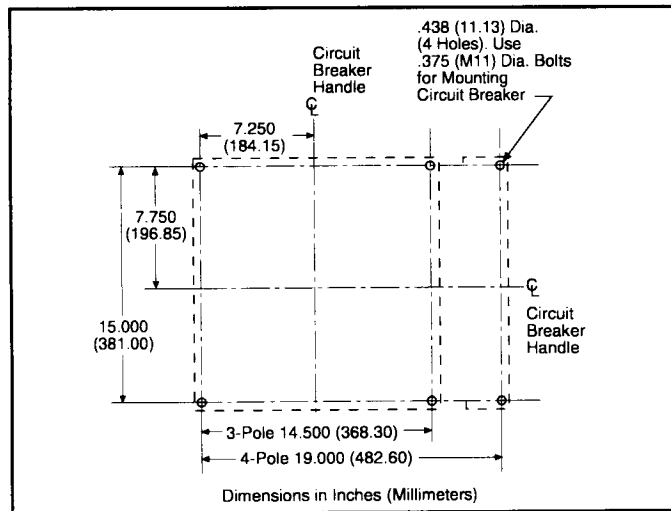
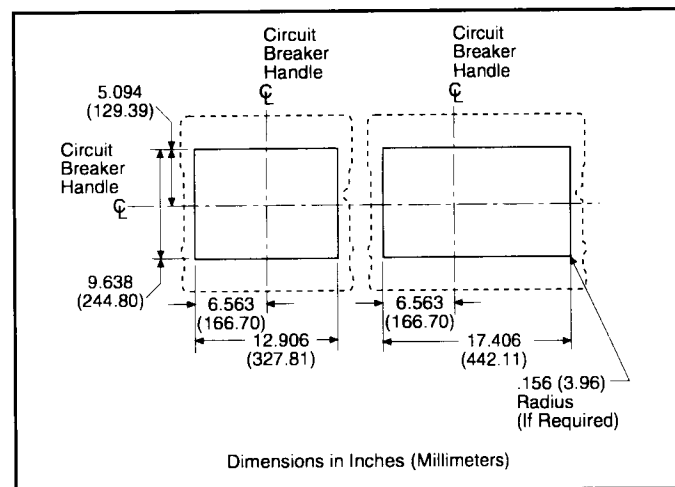

Fig. 2-3 Circuit Breaker Mounting Bolt Drilling Plans
Fig. 2-4 Circuit Breaker Escutcheon Dimensions for 3- and 4-Pole Circuit Breakers
- a. For individual surface mounting, drill mounting panel using the drilling plan shown in Fig. 2-3. For dead-front cover applications, cut out cover to correct escutcheon dimensions, see Fig. 2-4.